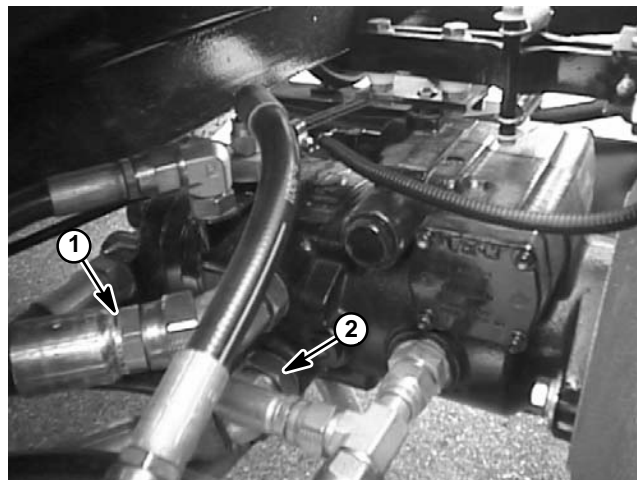

Figure 14
3. Clean and disconnect hydraulic pressure hose from piston pump fitting on right side of pump for function to be checked (Fig. 14):